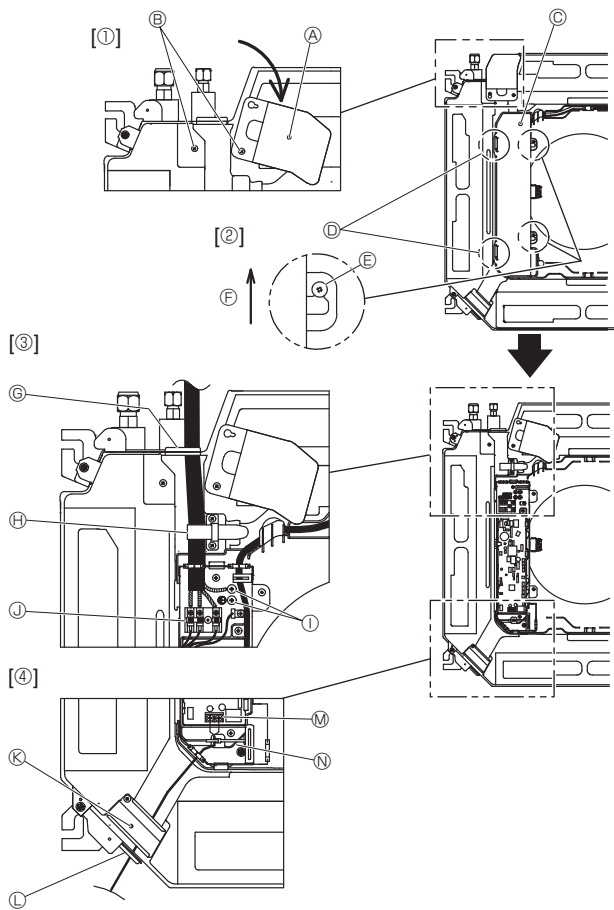
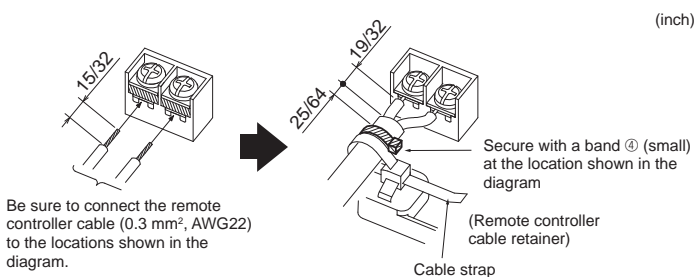

Fig. 6-1
Fig. 6-3
6.1. Indoor unit (Fig. 6-1)
- Loosen the two screws securing the electrical wiring service panel, and then turn the electrical wiring service panel. [Fig. 6-1 ①]
- Loosen the two screws securing the electrical box cover, then slide the electrical box cover. [Fig. 6-1 ②]
- Pass the power cable, indoor/outdoor unit connecting cable and earth cable through the wiring entries given in the diagram. [Fig. 6-1 ③]
- Pass and wire the remote controller cable through the wiring entries given in the diagram. [Fig. 6-1 ④, Fig. 6-3]